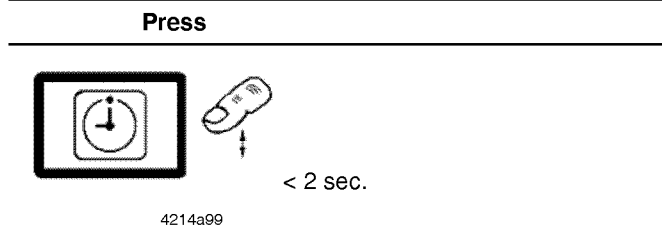

Fig. 11-3 To acknowledge a malfunction
- Before that the fault can be confirmed (see operator key fig. 11-3). Furthermore, you cannot change into the programming mode.